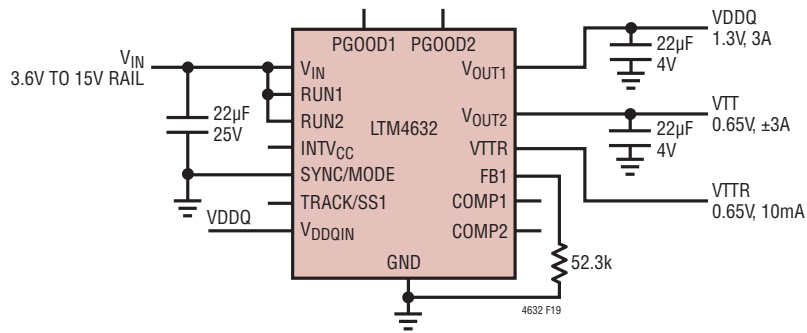

Figure 19. 3.6V to 15V Input, 1.3V/3A VDDQ, 0.65V/±3A VTT and 10mA VTTR Design
**Table 5. Output Voltage Response for Each Regulator Channel vs Component Matrix (See Figure 19)